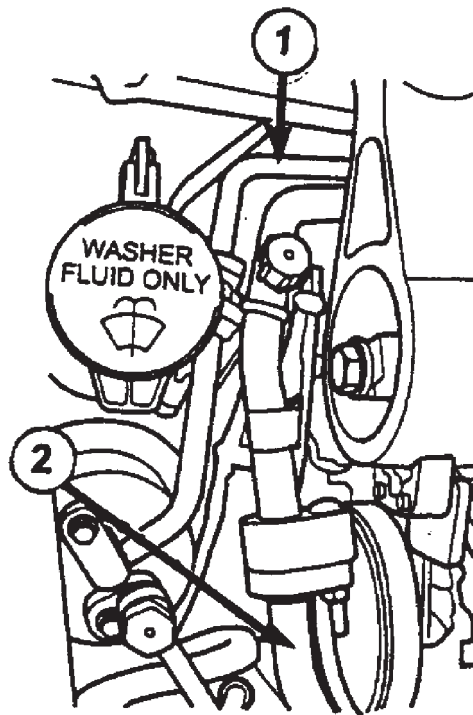

FIGURE 1
4. Install the new A/C suction line (p/n 05278761AB) and A/C unified line (p/n 05015344AC). The new suction line will use the alternate A/C compressor bolt hole. Torque the bolt at the dash panel to 22.5 Nm (200 in.lbs). Torque the nut/stud to 11.8 Nm (105 in.lbs). Torque the filter drier bolt to 11.2 Nm (100 in.lbs). Torque the A/C compressor bolt to 12.2 Nm (108 in.lbs). (Figures 1 and 2).